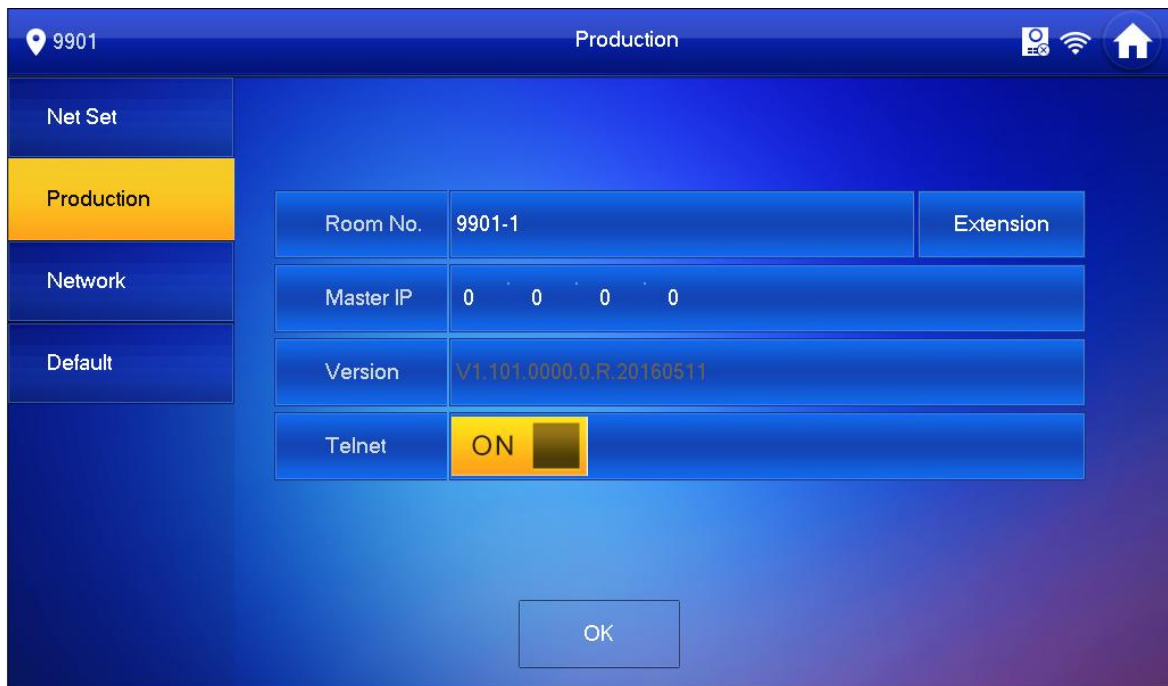

Figure 4-7
- If you want to set this VTH to be extension VTH, then you shall select Extension. Fill in user config info for extension to auto sync with master, such as room no. and master IP. See Figure 4-7.